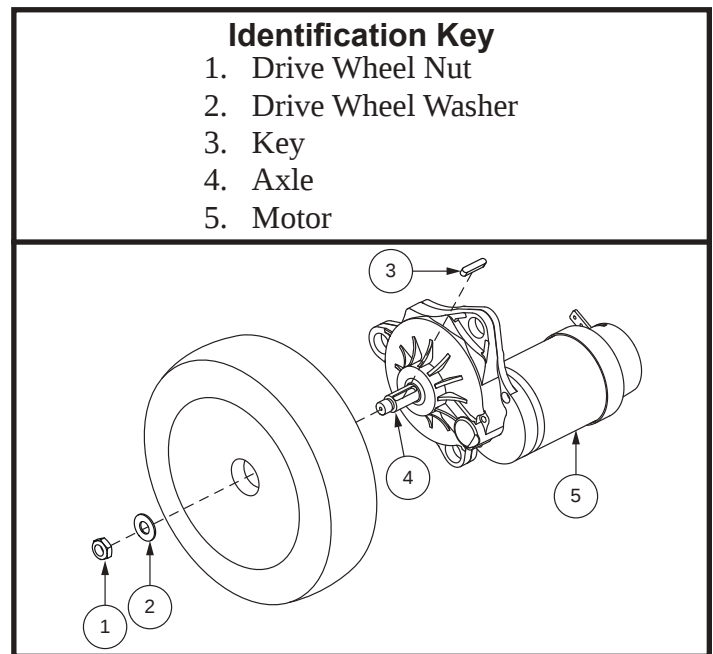

Figure 16. Drive Wheel Removal
6. Remove the drive wheel nut and washer from the axle. See figure 16.
12. Using a new drive wheel nut, reinstall the drive wheel nut and washer onto the axle and tighten. See figure 16.